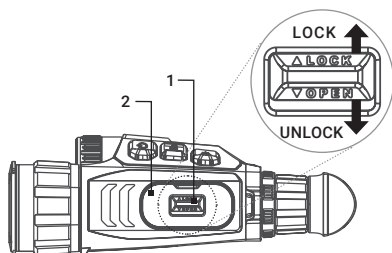

FIGURE 2-1. BATTERY COMPARTMENT
1. Unlock by the latch (Fig.2-1, 1) of the battery compartment cover.